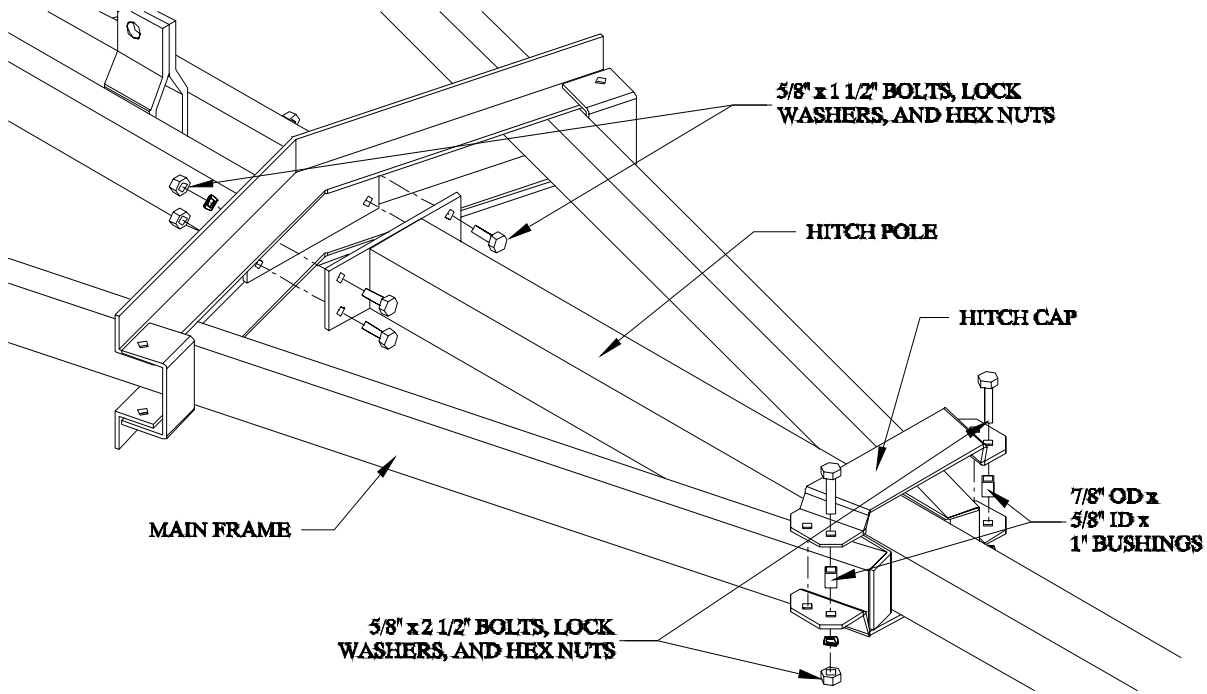
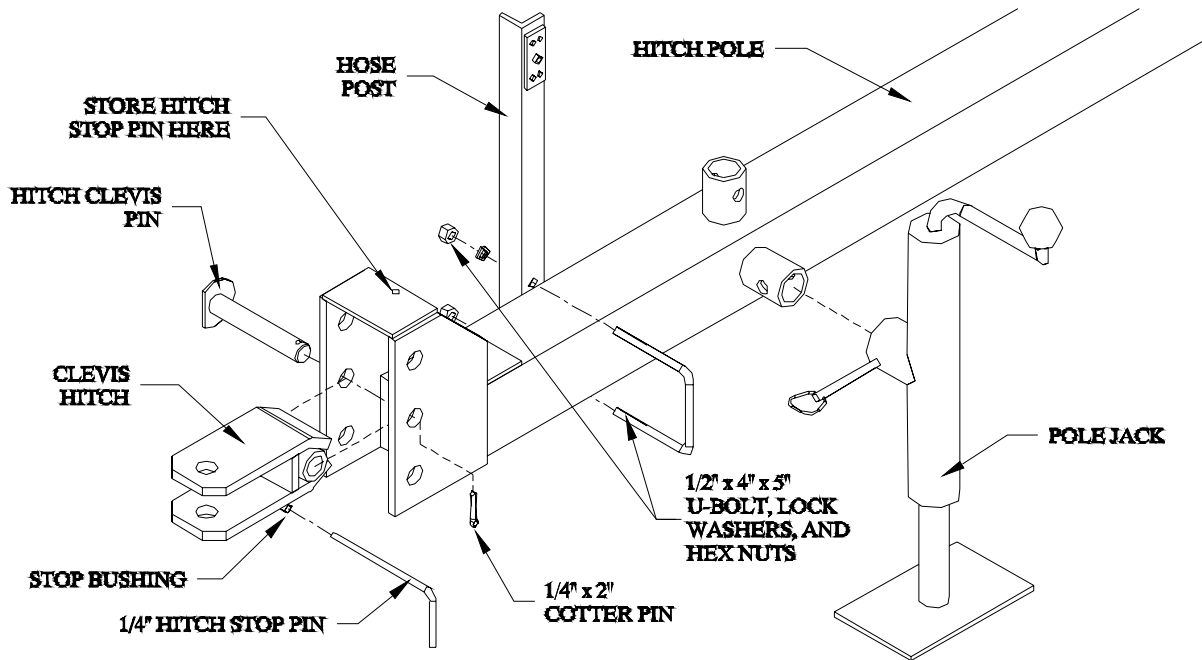

Figure 2
Figure 3
4. Place the hitch pole inside the main frame as shown in Figure 2 on the next page and bolt the rear of the pole to the frame with four 5/8" x 1 1/2" hex bolts, lock washers, and hex nuts. Be sure the hitch head is oriented as shown in Figure 3 on the next page.
5. Place the hitch cap over the hitch pole with two 7/8" OD x 5/8" ID x 1" bushings between the plates at the front two holes. Refer to Figure 2 on the next page. Fasten the hitch cap with two 5/8" x 2 1/2" bolts, lock washers, and hex nuts in the front two holes. Do *not* completely tighten the bolts yet.
6. Attach the pole jack to the hitch pole. Refer to Figure 3 on the next page. A round tubular stud is welded to the side of the hitch pole. A matching tubular stud on the jack fits over the first stud. The jack is held in place with the hitch pin that is attached to the jack.
- Attach the hose post to the hitch pole ahead of the jack. Refer to Figure 3. The post is fastened with a 1/2" x 4" x 5" U-bolt, lock washers, and hex nuts.
At this point there should still be two holes available between the hitch caps (refer to Figure 2 on page 14).